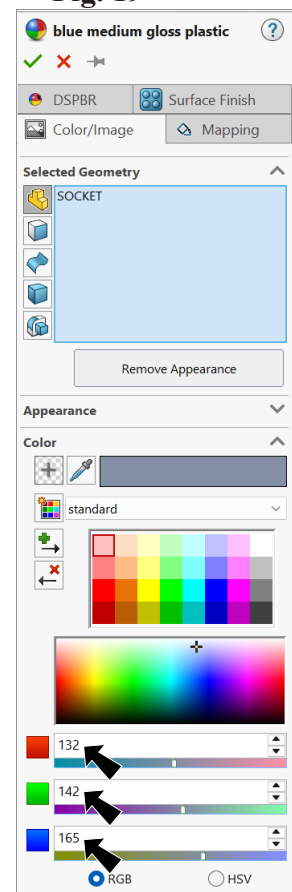

Fig. 21
Step 3. Over in the Appearances Property Manager, under **Color**, Fig. 21